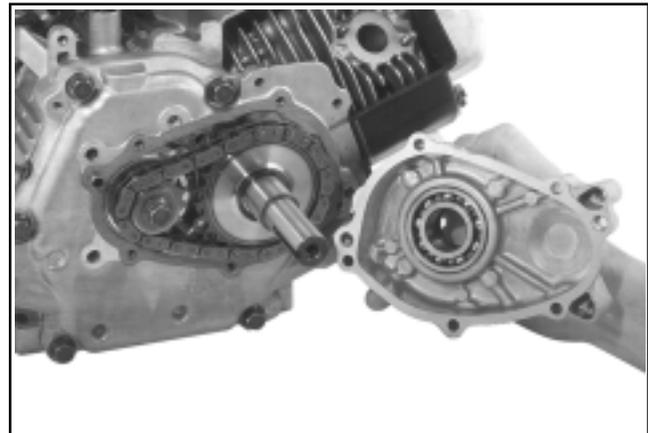

**Figure 9-53. Removing Reduction Housing Screws on CS4, CS6.**
- Remove the mounting bolts securing the reduction system housing onto the crankcase. Place a flat pan or towel under the housing to catch any remaining oil. See Figures 9-53 and 9-54.